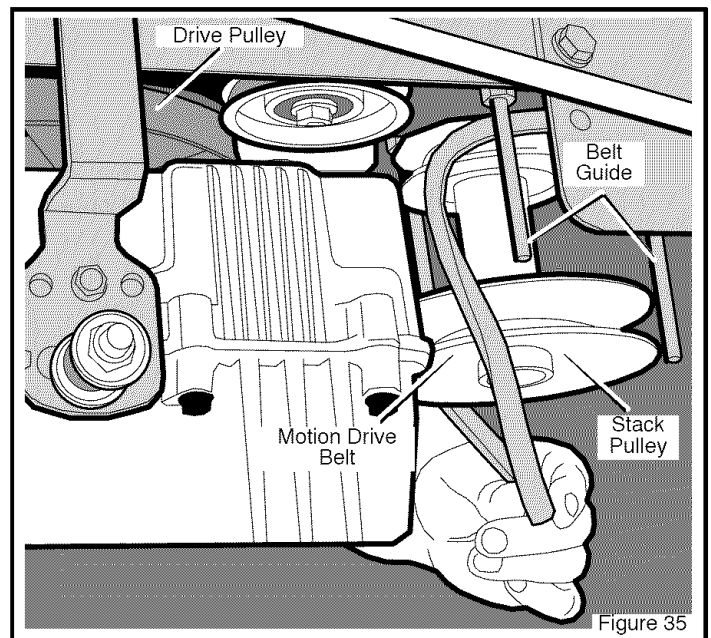

Figure 35
7. Slip the rear of the **motion drive belt** over the **drive pulley** and out the front of the transmission. Then, pull the **motion drive belt** down between the **belt guides** and the **stack pulley** (see Figure 35).